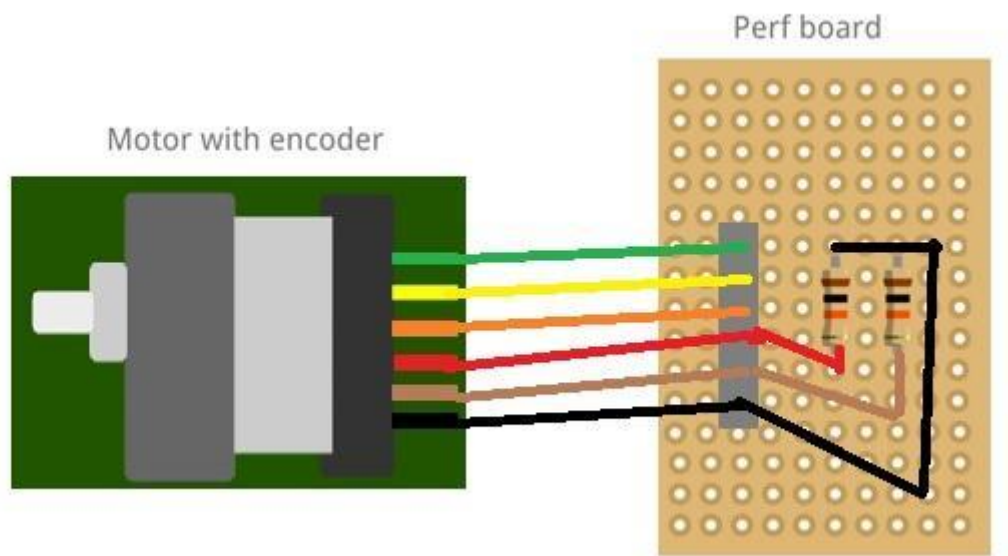

Figure 3: Board for Motor with quadrature encoder
5. After finishing the connection board should look like Figure 3.